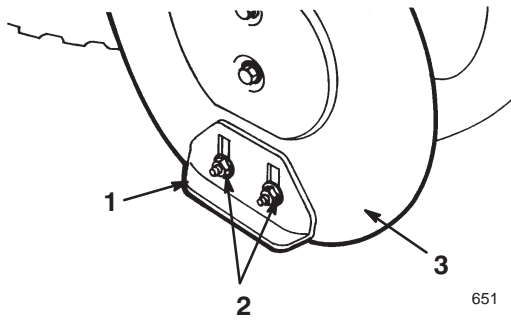

Figure 19
- Loosen the four flange nuts that secure both skids to the auger side plates (Fig. 19) until the skids slide up and down easily.
- Tighten the four flange nuts that secure both skids to the auger side plates (Fig. 19).